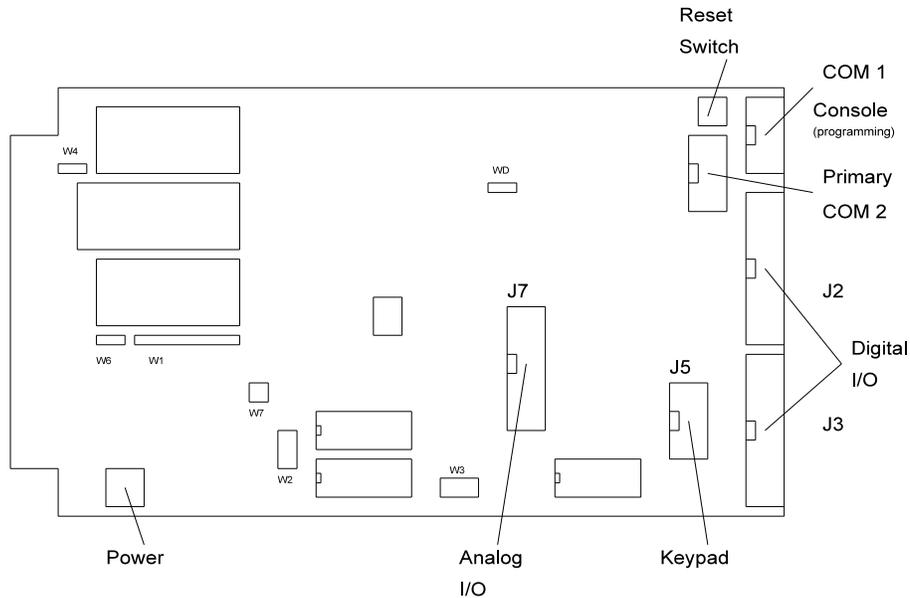

Figure 2-1 Connector Locations
Become familiar with the locations of the connectors before getting started. See Figure 2-1.
2. You can use either a PC or CRT terminal to program the SBS-2300. Connect one end of the VTC-10 connector to then 10 pin COM1 (console) port on the SBS-2300. Refer to Figure 2-1 for connector location.